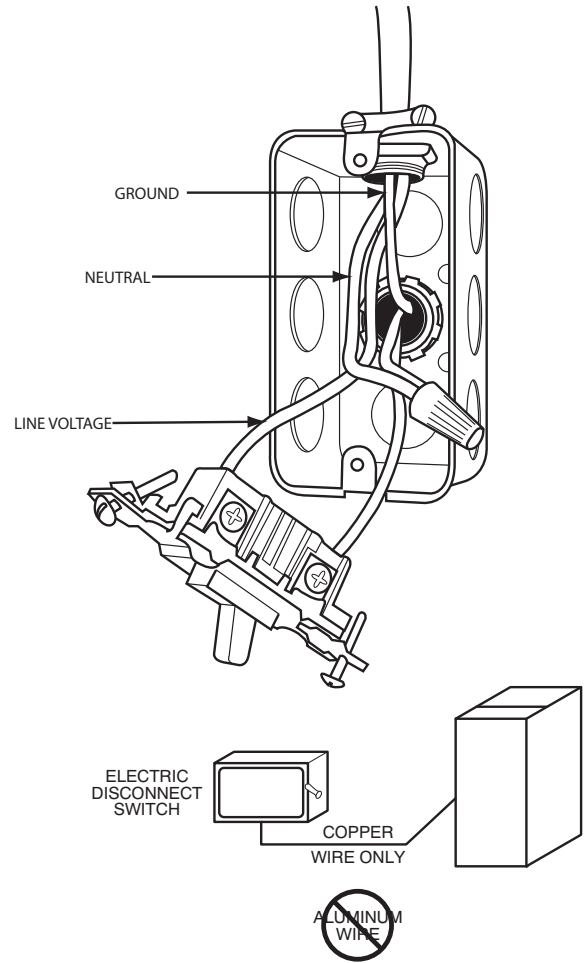

Fig. 32 - Field-Supplied Electrical Box on Furnace Casing
Do not connect aluminum wire between disconnect switch and furnace. Use only copper wire. See Fig. 32.
1. Fasten a field-supplied external electrical box to the outside of the casing by driving two field-supplied screws from inside electrical box into casing. See Fig. 32.
9. Complete external disconnect wiring and installation. Connect line voltage leads as shown in Fig. 32. Use best practices (NEC in U.S.A. for wire bushings, strain relief, etc., CANADA: Canadian Electrical Code CSA C22.1)